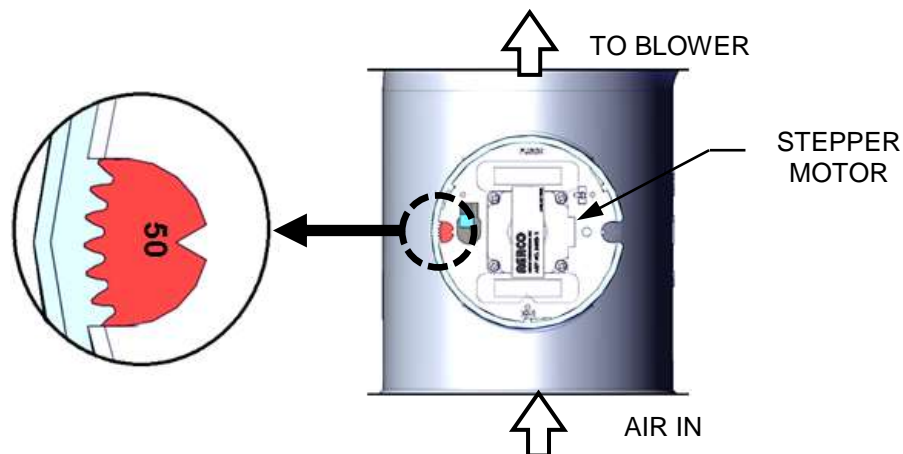

Figure 3-4: Air/Fuel Valve in Ignition Position
- a. The Air/Fuel Valve rotates to the low-fire (Ignition Position) position and closes the ignition switch. The dial on the Air/Fuel Valve will read between 45 and 50 (see Figure 3-4) to indicate that the valve is in the low-fire position.